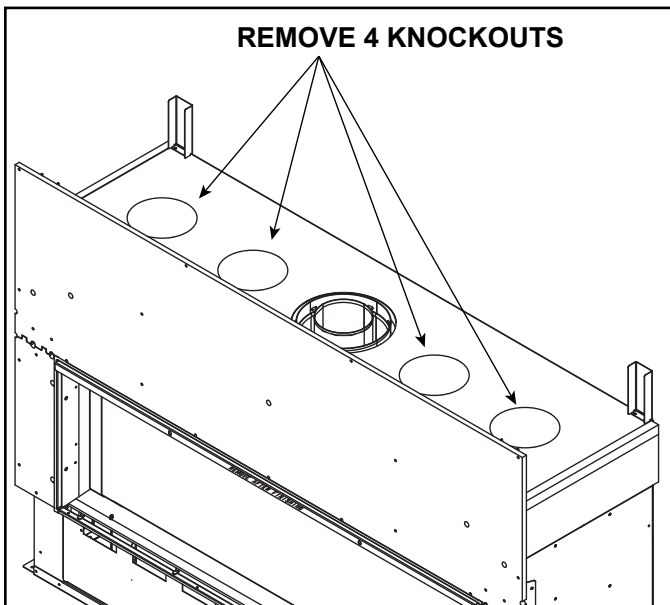

Figure 7 Remove Knockouts
1. Remove the four knockouts on the top of the appliance by dislodging them with a hammer and then using a screwdriver to remove from the holes. See Figure 7.